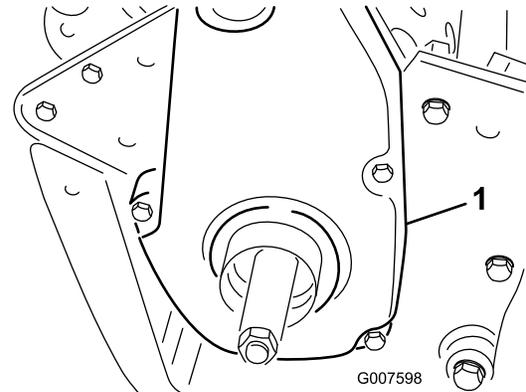

Figure 36
1. Remove the belt-cover mounting fasteners and the belt cover to expose the belt (Figure 36).